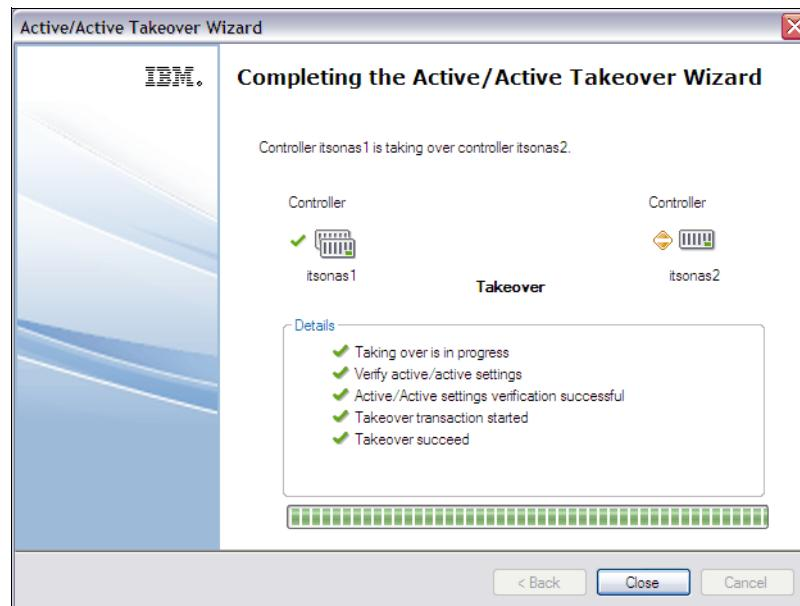

Figure 7-10 System Manager takeover successful
5. Figure 7-10 shows the Active/Active takeover wizard final step where takeover has been run successfully. Click **Close** to continue.